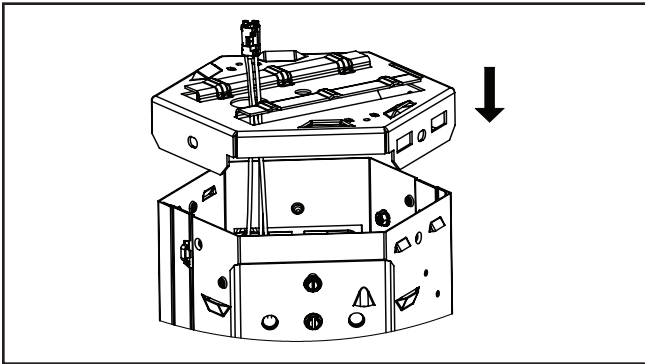

Figure 3.
3. Attach TCB Top Enclosure to fixture and route wires through it. (Figure 3.)